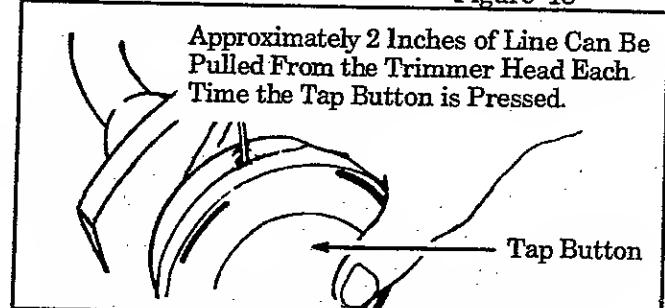

Figure 19
- h. Pull on line to change the spool from the locked position to the operating position. Figure 19.
- i. Obtain correct line length (4") by pressing tap button and pulling line again. Figure 19.